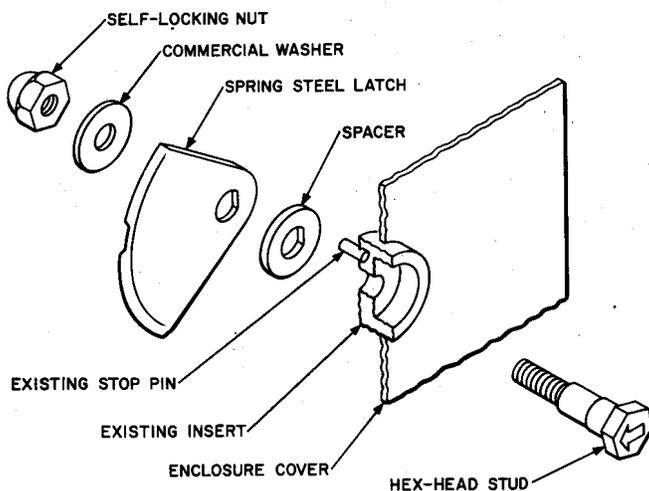

Fig. 14—Repair Latch
7.03 If a new latch mechanism is required, a kit of parts D-180443P (Fig. 14) is available to replace the broken latch. These parts are oriented so that, as in the original latch, the arrow points toward the edge of the door when locked and away when unlocked. The direction of rotation with this latch is not critical as there is **NO STOP PIN EFFECT**.